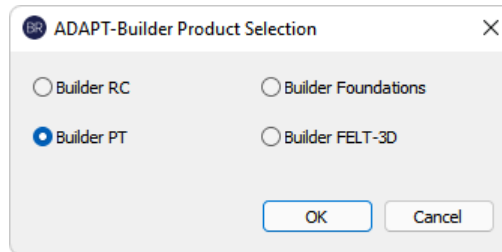

FIGURE 2-1
- The program will either open to a products selection screen as shown in **FIGURE 2-1** or the program splash screen shown in **FIGURE 2-2**. If greeted with the product selection screen, click on the radio button next to **Builder PT** as shown below.